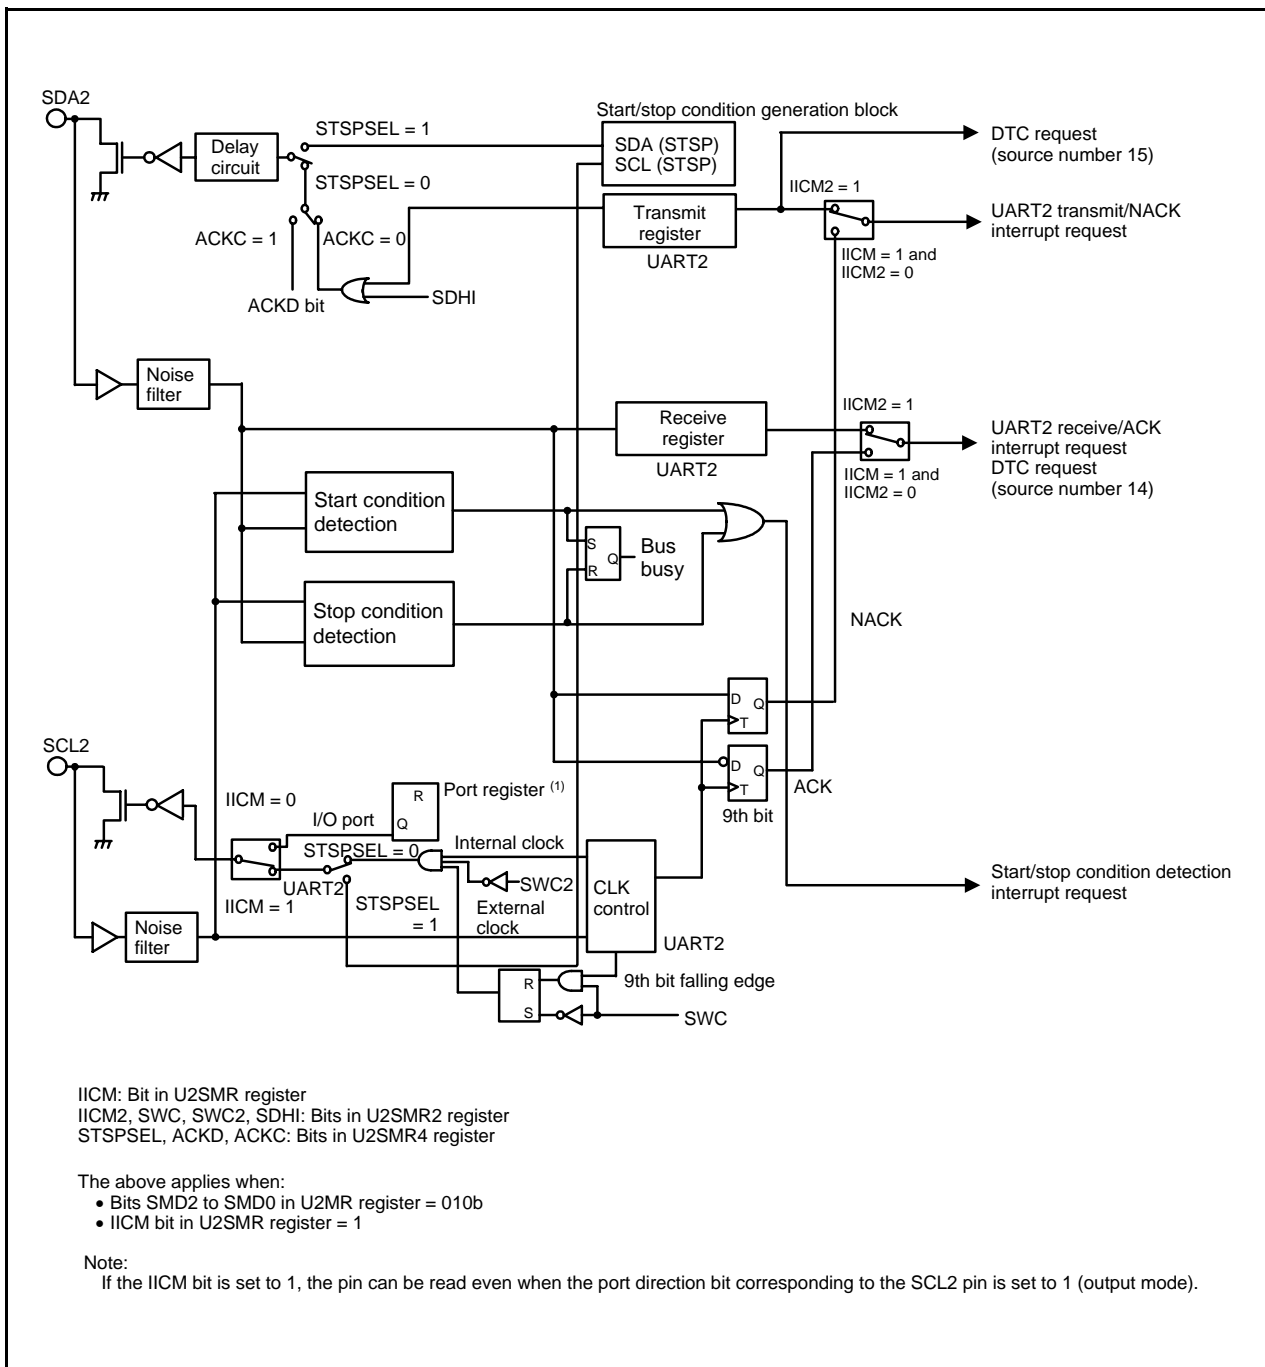
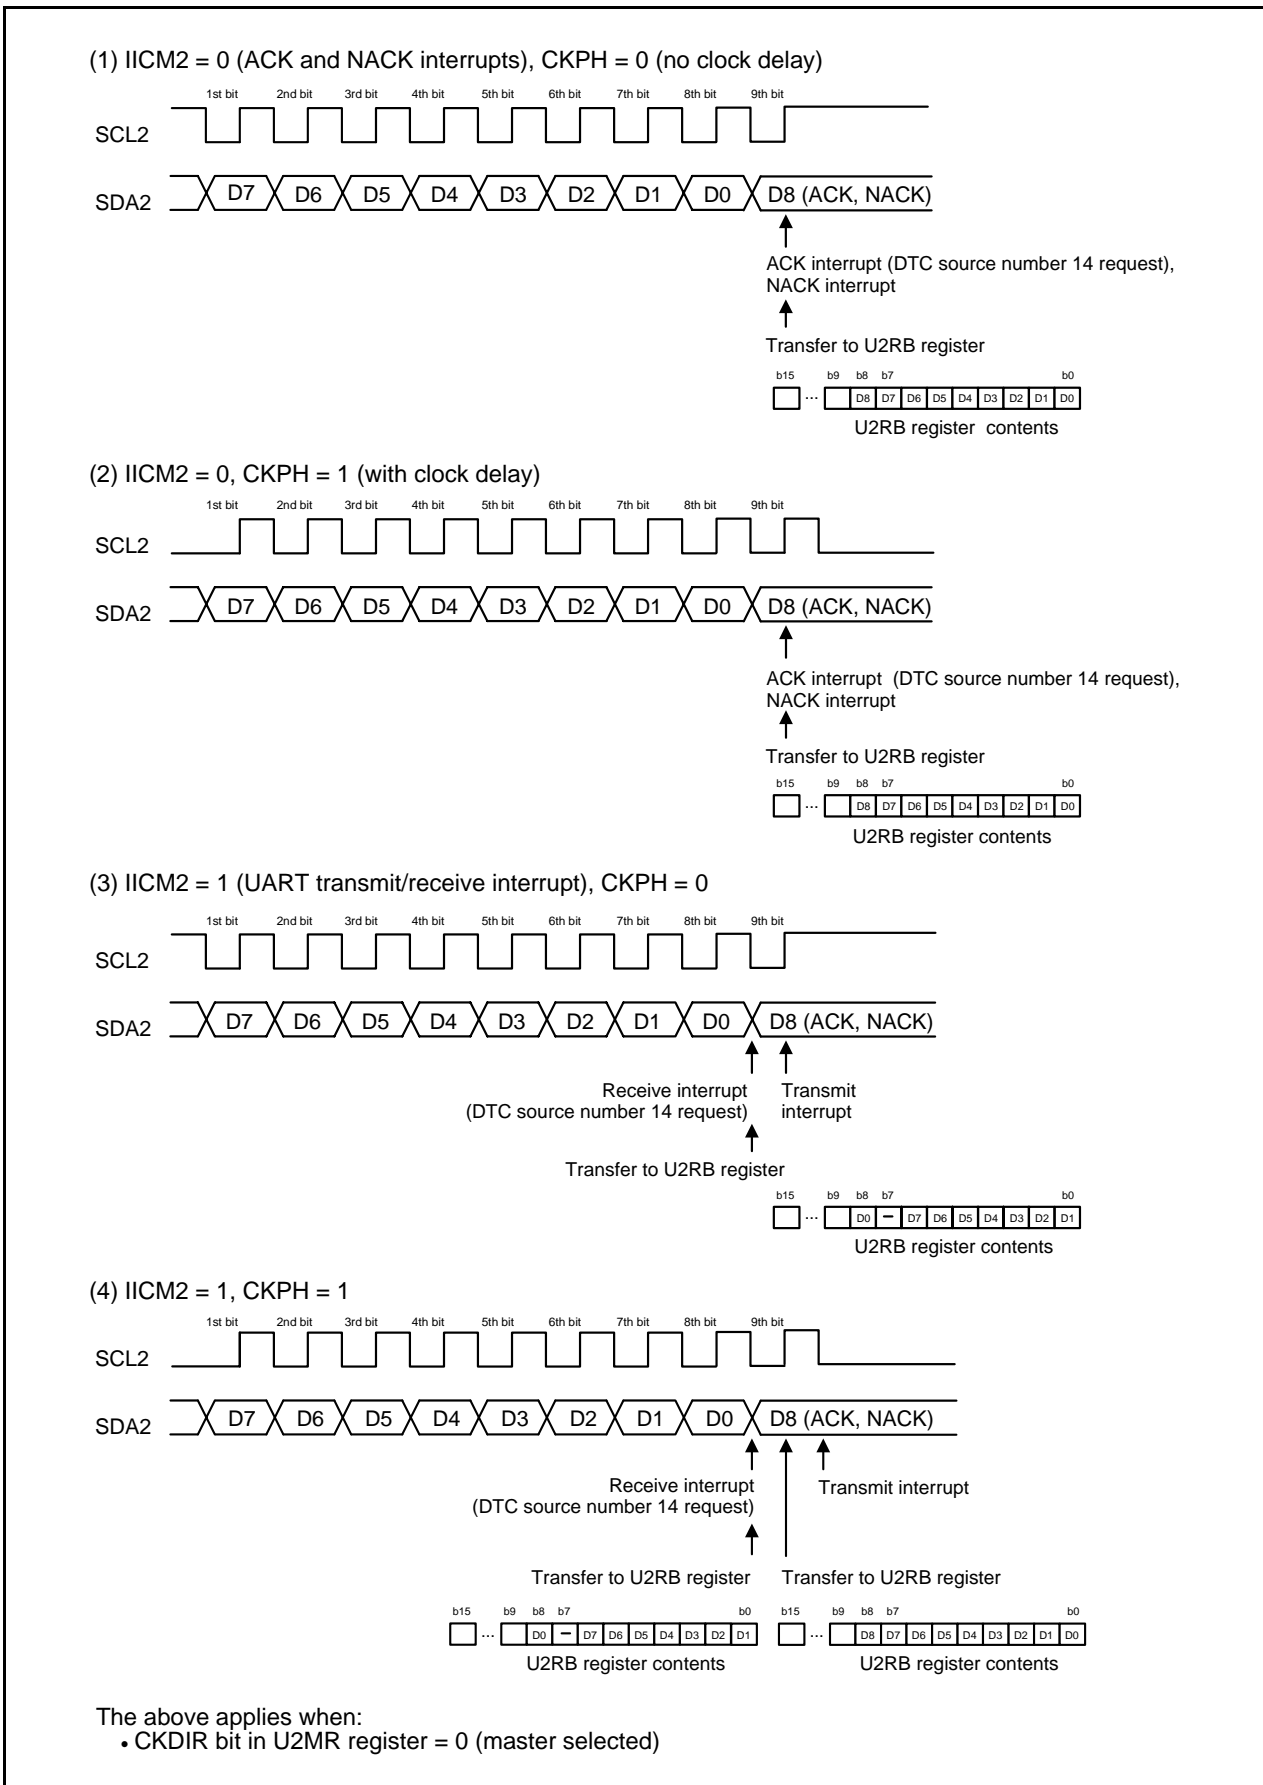

Figure 22.13 I2C Mode Block Diagram
Figure 22.14 Transfer to U2RB Register and Interrupt Timing
I2C mode is provided for use as a simplified I2C interface compatible mode. Table 22.9 lists the I2C Mode Specifications. Tables 22.10 and 22.11 list the registers used in I2C mode and the settings. Table 22.12 lists the I2C Mode Functions, Figure 22.13 shows an I2C Mode Block Diagram, and Figure 22.14 shows the Transfer to U2RB Register and Interrupt Timing.
- Refer to Figure 22.14 Transfer to U2RB Register and Interrupt Timing.
The transfer clock is used to transmit and receive data as is shown in **Figure 22.14 Transfer to U2RB Register and Interrupt Timing**.